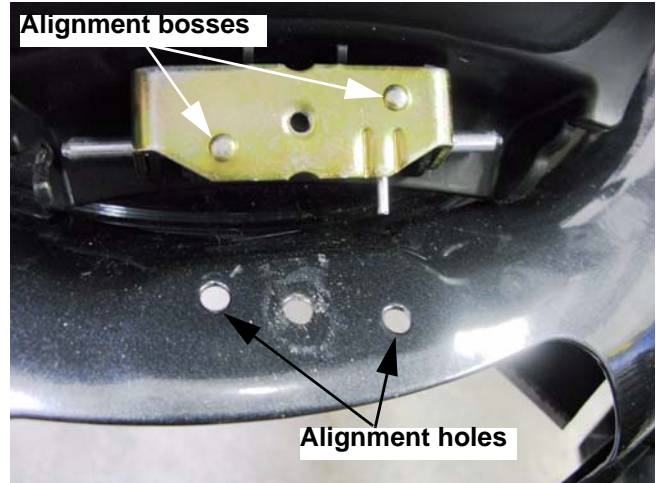

Figure 4.8
10. To Install the side discharge door on the mower deck: See Figure 4.8.